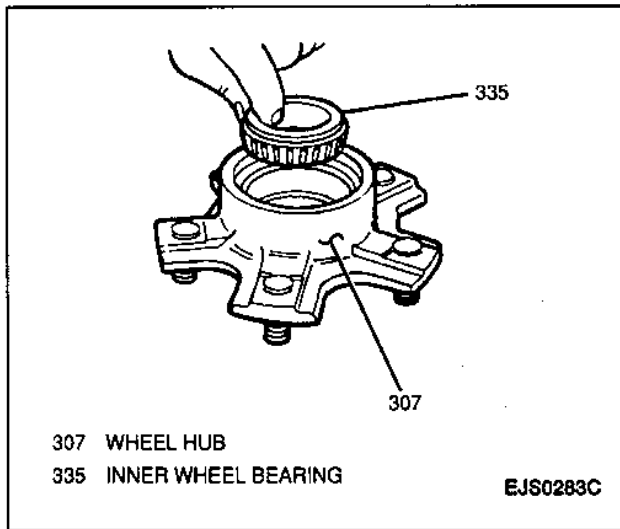

Figure 28—Removing Inner Bearing From Hub
12. Inner bearing from hub (Figure 28).